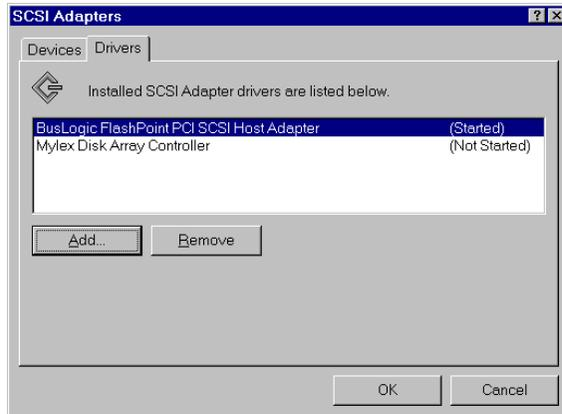

Figure 3-12. Add Another SCSI Driver
14. With the Drivers page in the foreground, click Add. (Figure 3-12).